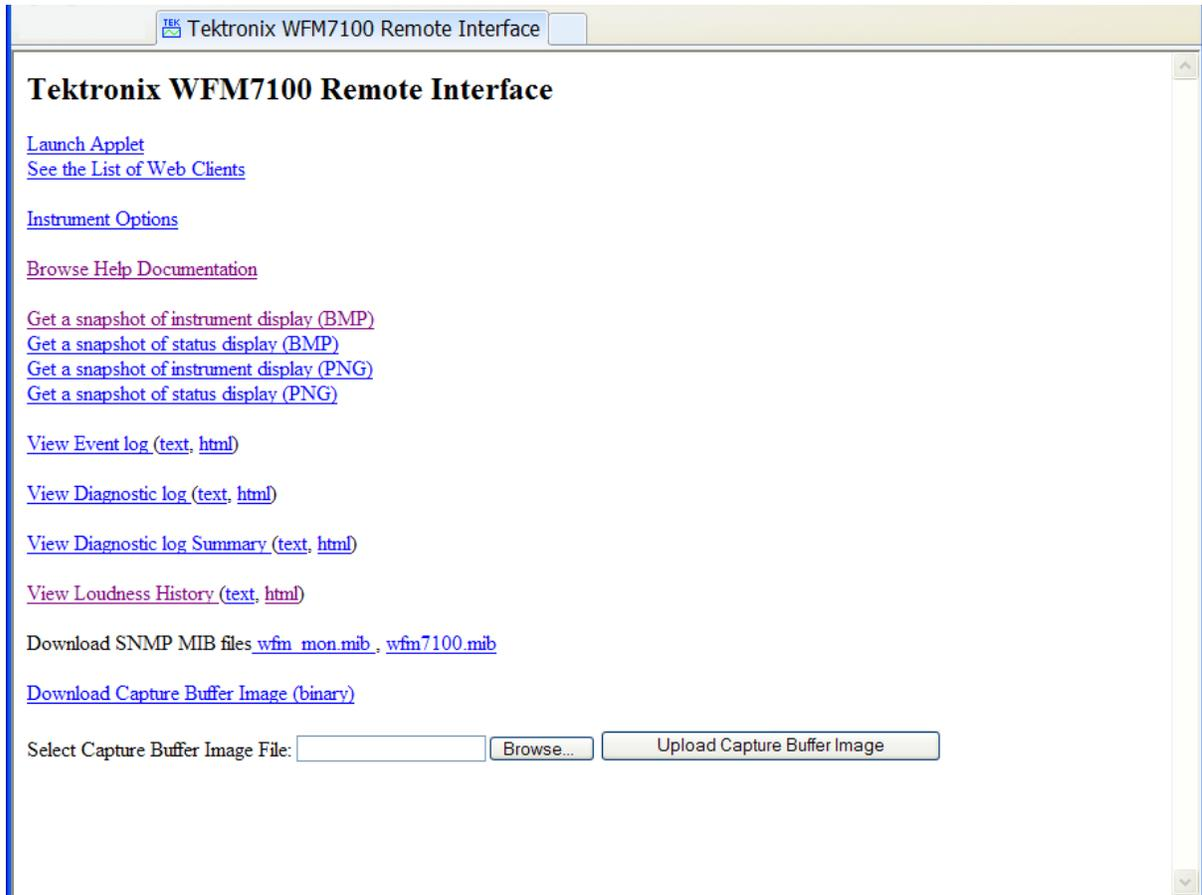

Figure 8. Tektronix Remote Interface.
10. Select **View Loudness History (text, html)** from this web page (Figure 8). Depending on your network connection speed and the length of the Loudness History this download process can take several minutes.